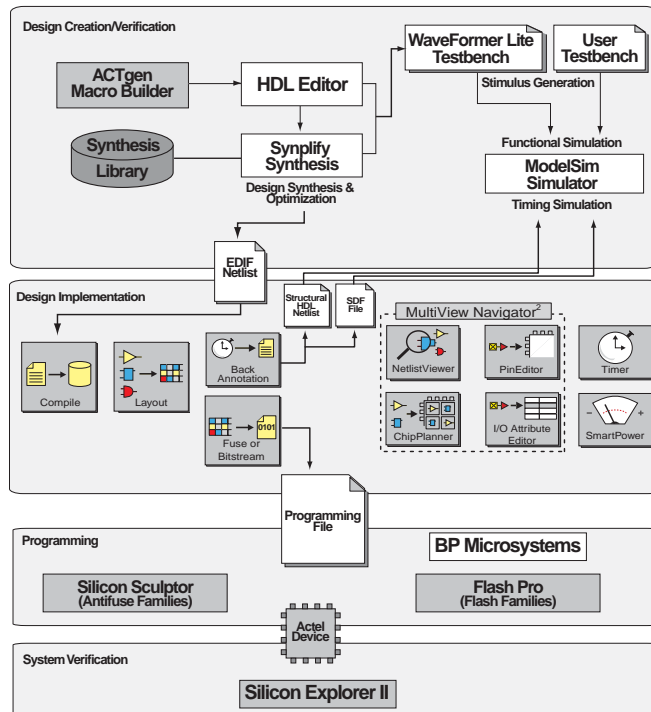

Figure 2-2. Actel HDL-Based Design Flow
Figure 2-2 shows the HDL synthesis based design flow for an Actel device using Designer Series and third-party HDL synthesis software.¹
1. Actel-specific utilities/tools are denoted by the grey boxes in Figure 2-2.